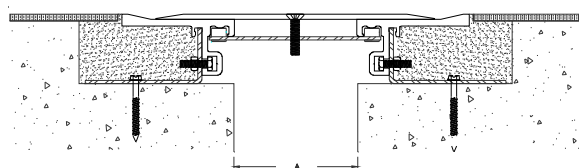

Figure 9
**STEP 14.** Hand tighten the centering bar screws until the cover plate is held firmly in position. Do not overtighten the centering bar screws (see Figure 9).